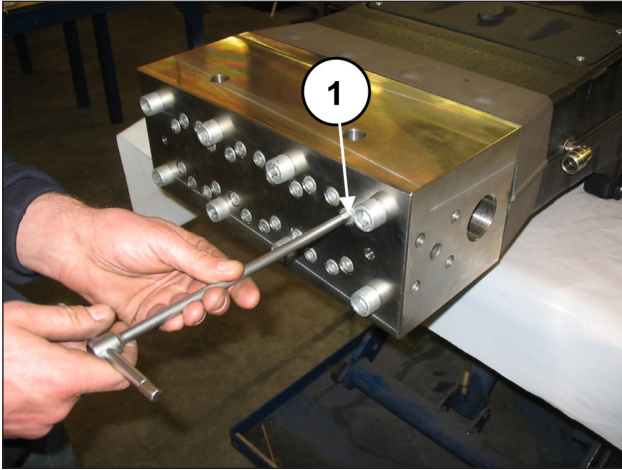
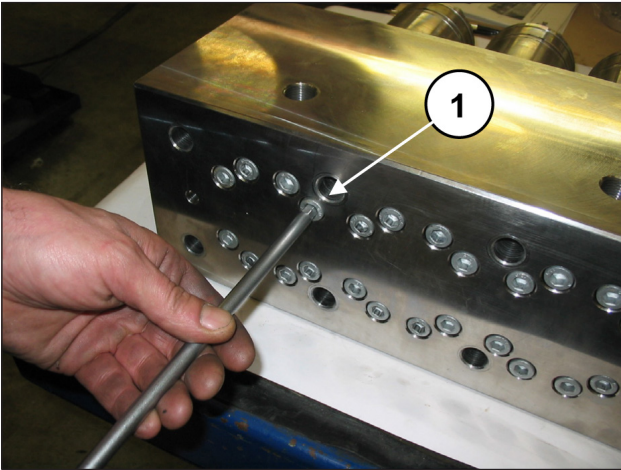
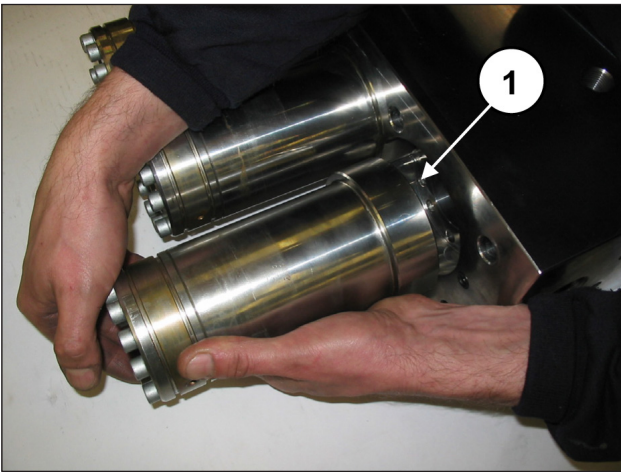

Fig. 106
Fig. 112
Fig. 113
Unscrew the M10x140 head liner fixing screws without removing them (pos. ①, Fig. 106), in such a way as to free them.
Remove the M10x140 head liner fixing screws (pos. ①, Fig. 112) and remove the liner units (pos. ①, Fig. 113).
Separate the head and the spacer for the liners from the pump casing as shown in par. 2.2.1 (from Fig. 106 to Fig. 113).